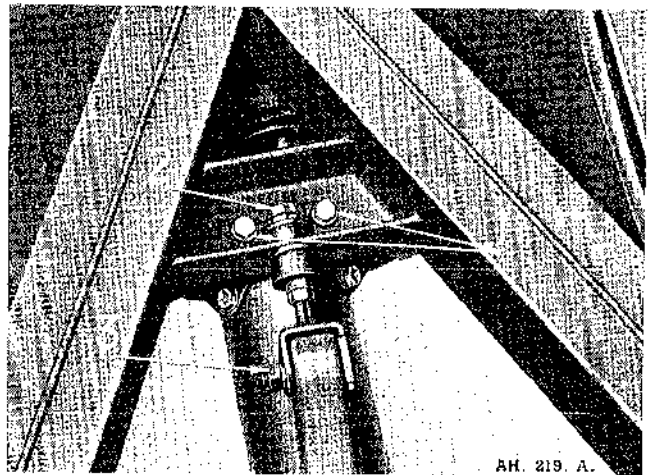
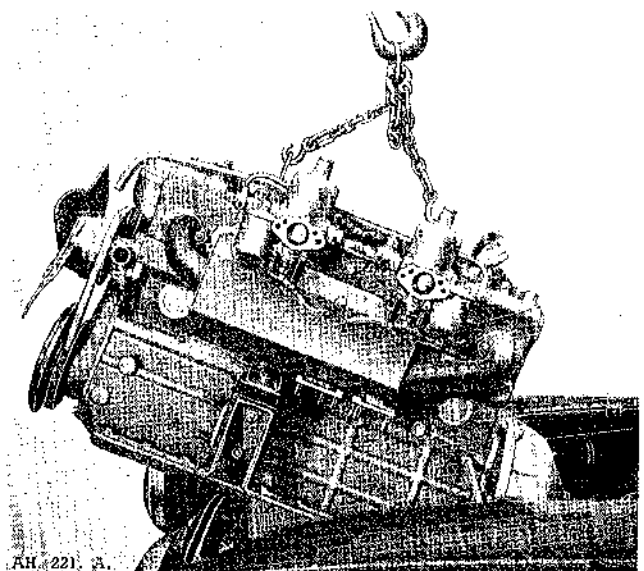

Fig. A.4. The gearbox lower securing points showing 1, Setpins; 2, Stabiliser Adjusting Nut; 3, Securing Pin.
Fig. A.5. Showing the engine and gearbox being removed.
- (7) Working beneath the vehicle remove setpins (1) fig. A.4 and unscrew the nuts (2) and (3) to release the stabiliser bar.
- (8) Detach the clutch slave cylinder from the gearbox bell housing by removing the two securing setpins. The slave cylinder push rod is released from the clutch operating lever by the removal of the securing clevis pin.
- (9) Hoist the engine complete with gearbox through the bonnet opening as shown in fig. A.5, ascertain that no damage is done by the gearbox when manoeuvring it through the bulkhead aperture.